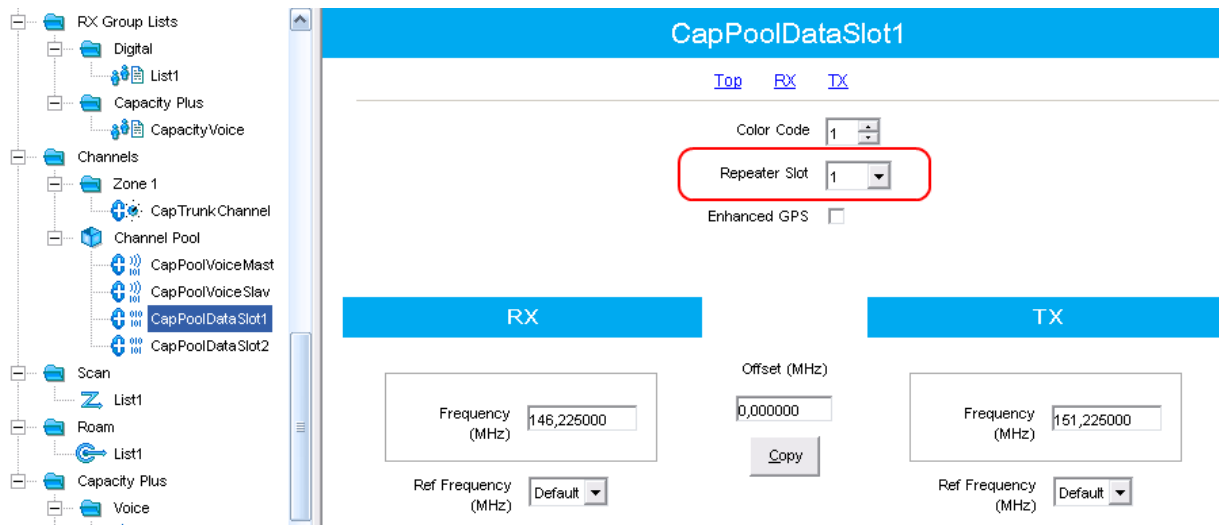

Fig. 22 - Creating channel pool for Slave (Data revert) repeater Slot 1
3. Create channel pool for slot 1 of Slave (DataRevert) repeater (Fig.22).